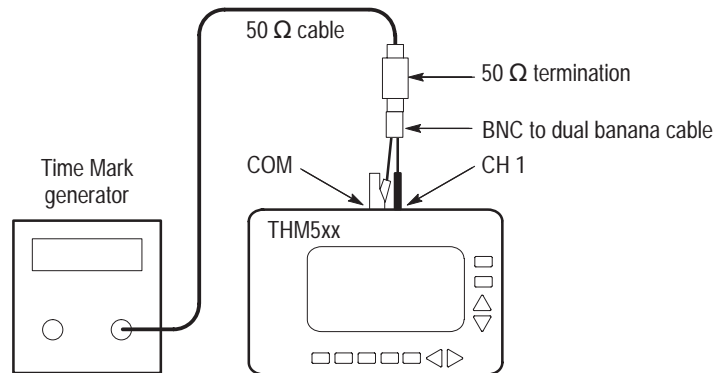

Figure 6: Time base accuracy test setup
1. Connect the time mark generator marker output to the THM500 series instrument CH 1 and COM inputs using a 50 Ω termination as shown in Figure 6. Assure that the ground connection for each adapter connects to the common (or ground) connector of its associated instrument.